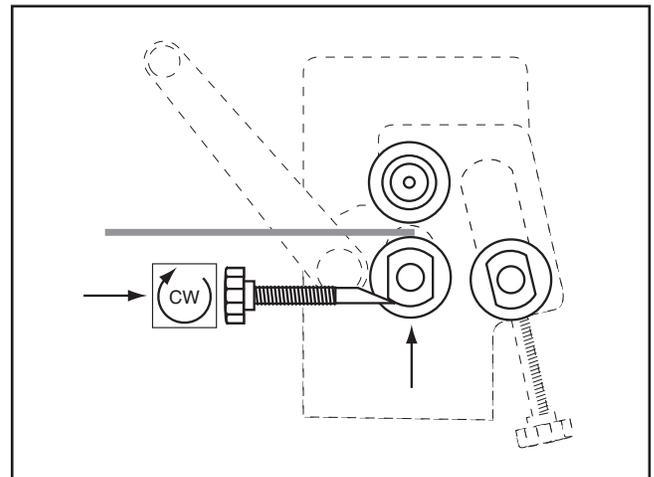

Figure 22. Raising lower roller.
1. Place the workpiece between the upper and lower rollers, as shown in **Figure 22**. Turn the thickness adjust knobs to lift the lower roller until the workpiece is held snug between the upper and lower rollers. Be sure to turn the thickness adjust knobs equal amounts.